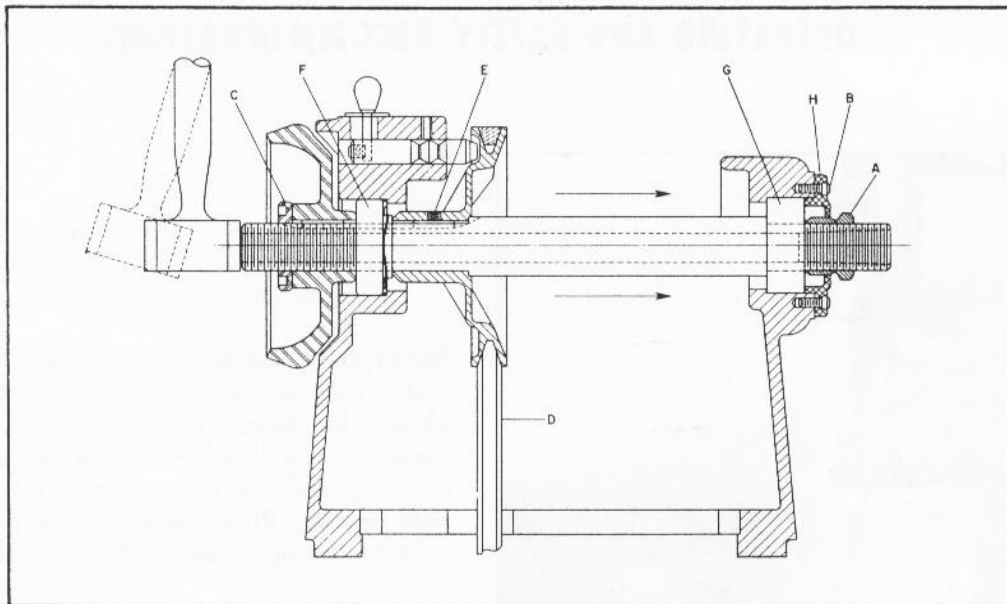

Fig. 12.
4. Unscrew and remove spindle nut (A) Fig. 12.
5. Remove four screws (B) Fig. 12, and inboard bearing retainer (H).
6. Remove spindle nut (C) Fig. 12.
7. Using a soft hammer or a block of wood gently tap the spindle to the right, as shown in Fig. 12.
8. Move the spindle far enough to the right to remove and replace the spindle belt (D) Fig. 12.
9. Loosen set screw (E) Fig. 12. The spindle pulley can then be replaced.
10. If bearings (F and G) Fig. 12, need replaced, completely remove the spindle from the headstock.